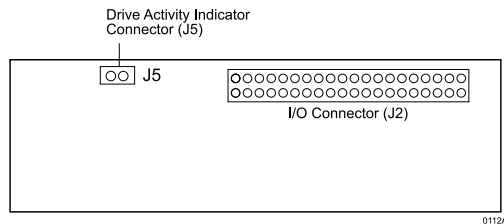

Figure 6: Drive Carrier Circuit Board
- **Activity Indicator** is a small dot next to the Unit ID Number which flashes when the host computer is accessing data on the DE100i-A100 carrier. Refer to Figure 6 on page 7 and section "*Drive Activity Indicator Connector (J5)*" on page 8 for further information.